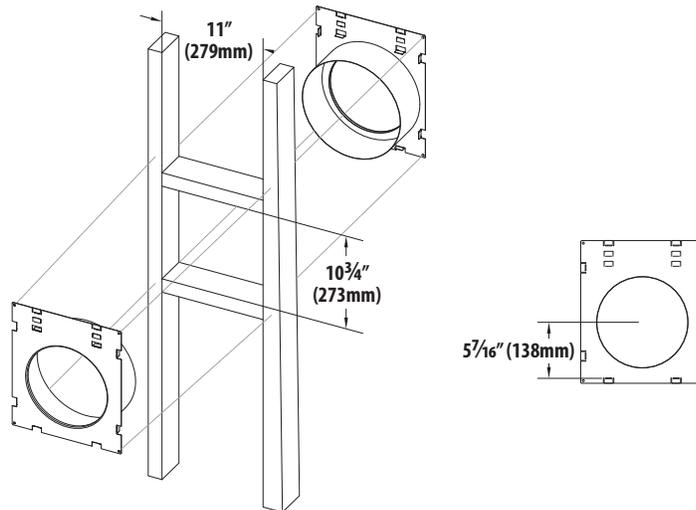

FIGURE 3.5 Vent Termination Framing Dimensions
1. Measure from floor level of the fireplace to the center of where the vent pipe will penetrate the wall. The dimensions in **FIGURE 3.5** are used with a Simpson DuraVent elbow.
- Rigid pipe dimensions in **FIGURE 3.5** reflect Simpson Duravent 5" x 8" coaxial pipe. Other manufacturers product dimensions may vary.
- Flexible pipe framing dimensions in **FIGURE 3.5** reflect Kozy Heat #800 Series Flexible Vent System.